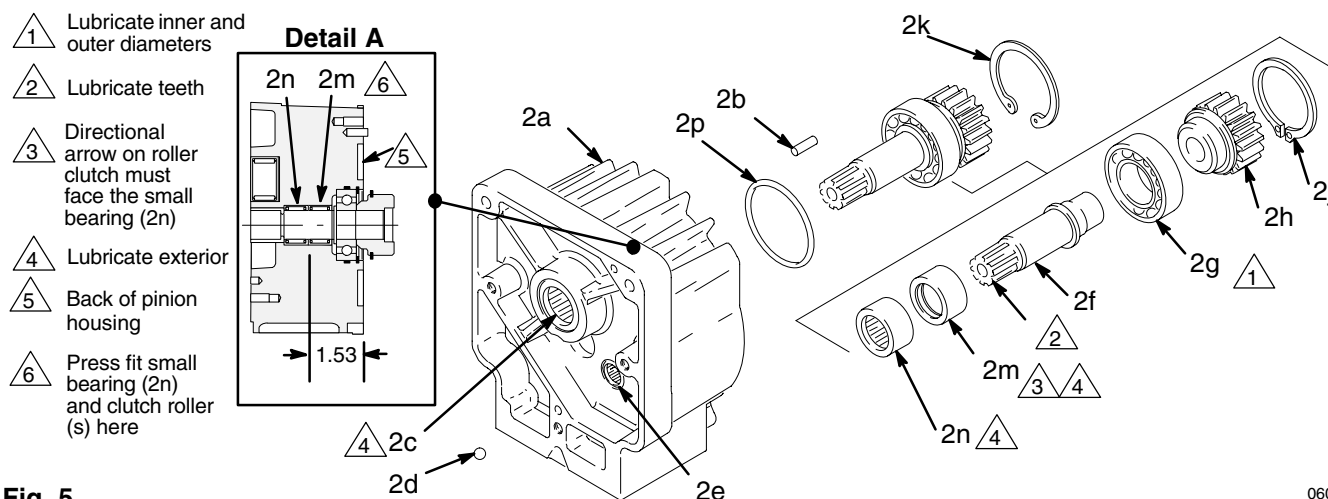

Fig. 5
3. Remove the two bottom screws (59) and lockwashers (16) first, then remove the top three screws (59) and lockwashers (16).
4. Pull the pinion housing (2) away from the clutch housing (1). The armature (51b) will come with it.
5. Pull the armature (51b) off the hub (2h**) of the pinion housing. Also see Fig. 5.
6. If replacing the complete pinion housing assembly (2), brush bearing grease (supplied) on the pinion shaft teeth. Then recoat the pinion shaft teeth with bearing grease (supplied). Pack the remaining bearing grease in the bottom part of the pinion housing. Use 1/4 tube of the bearing grease.
7. Install new gasket (64) (supplied).
5. Apply lubricant to the parts as shown in Fig. 5.
- Small bearing (2n) and then the roller clutch (2m), with the directional arrow facing the small bearing, into the rear of the housing (2a). See Detail A in Fig. 5.